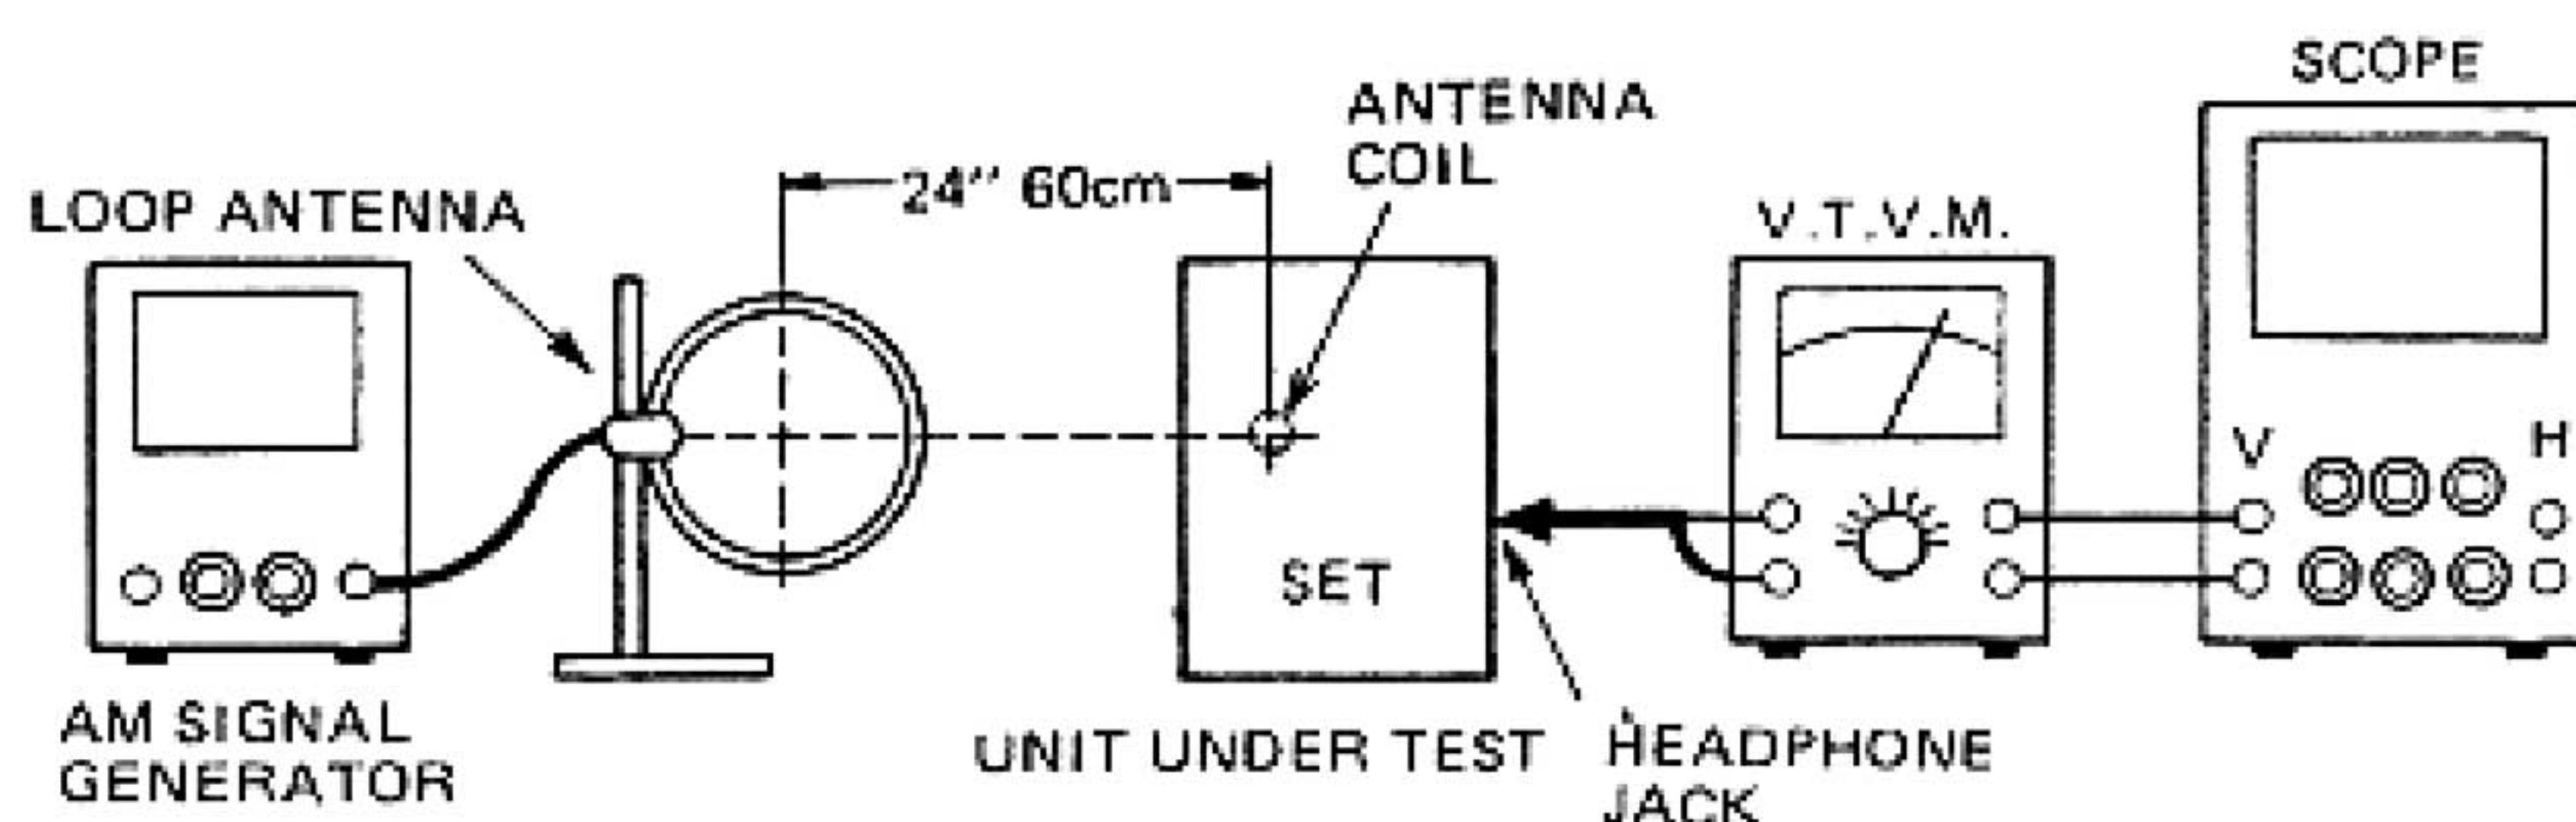

Figure 10
4. Using the loop antenna across the output of the signal generator, inductively connect the signal generator to the radio. (Figure 10)